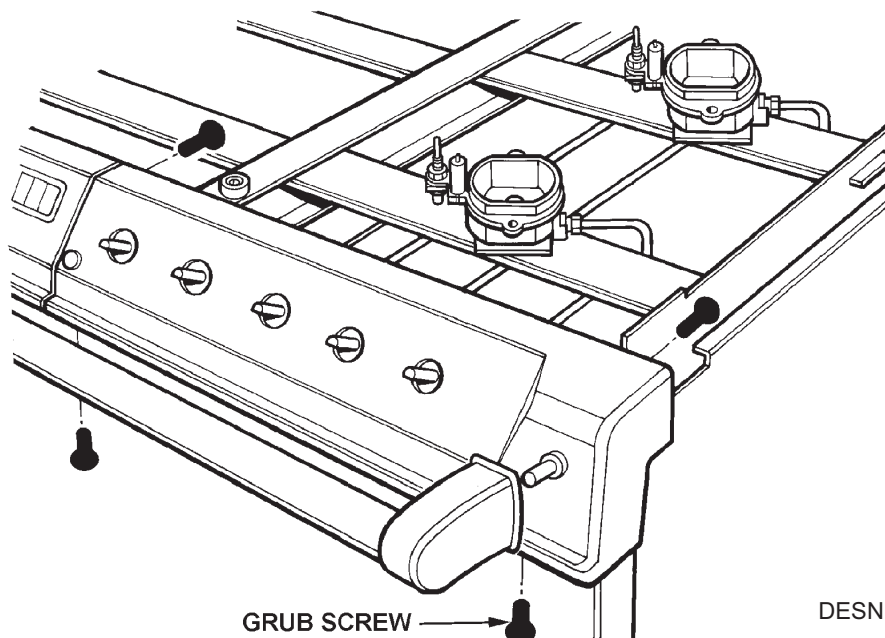

Fig. 24
4. Remove control panel fixing screws (4 per casting) (See Fig. 24). When removing the screws support the casting.
D. TO REMOVE HANDRAIL (SEE FIG. 24)
1. Loosen 2 grub screws, one at each end of hand rail (see fig. 24) using 2 1/2 mm socket key.